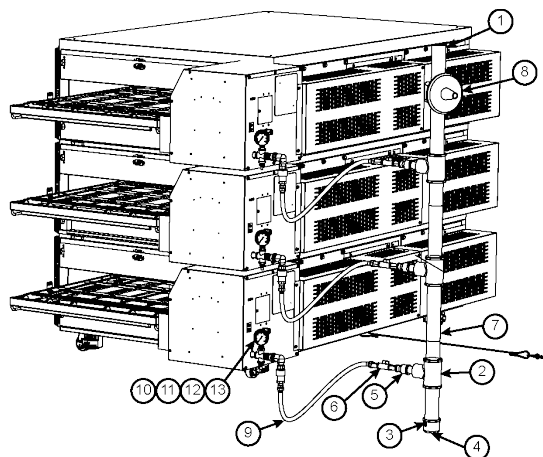
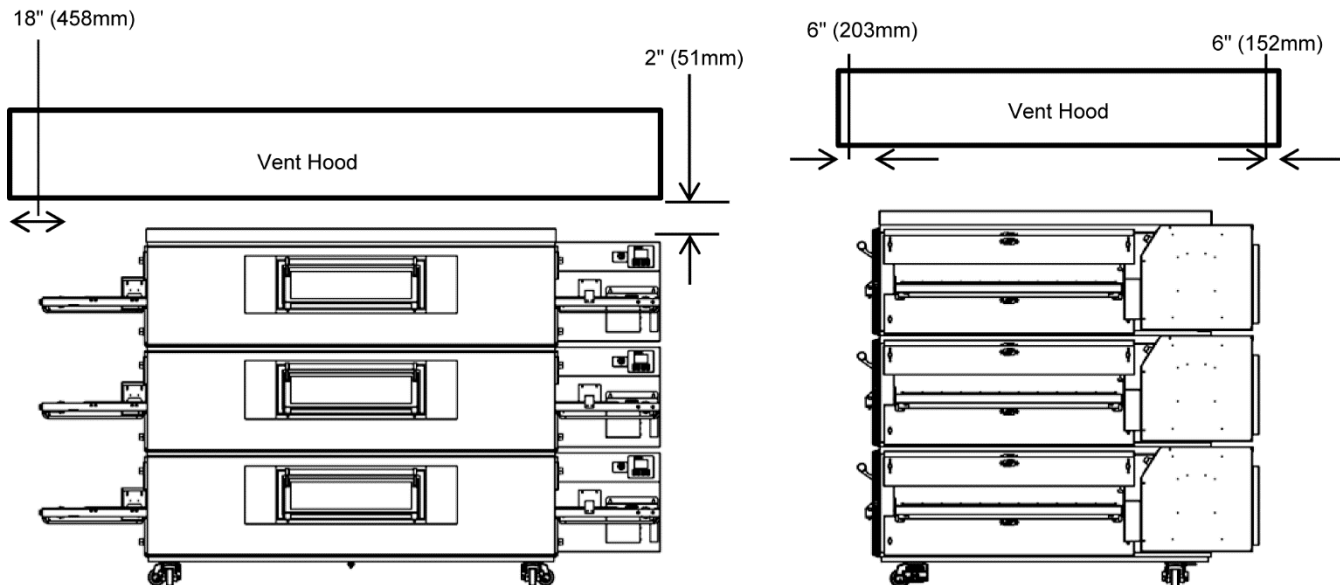

Figure 17. Gas Piping Requirements
Figure 18. Ventilation System
Install the top panels using the screws included in the base pad kit, as shown in Figure 17. Then, skip ahead to Part C, Restraint Cable Installation.
See Figure 18.
3. Install the top panel using the screws included in the kit, as shown in Figure 17 and Figure 18.